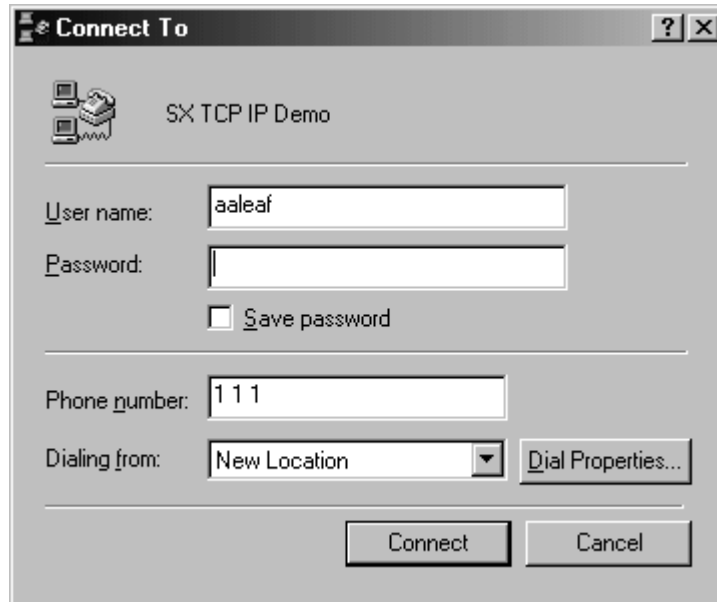

Figure 2-7. Modem Connection
5. Double-click the Shortcut to SX TCP IP Demo icon. In the Connect To dialog box, click CONNECT and watch the LEDs on the demo board. See Figure 2-7.